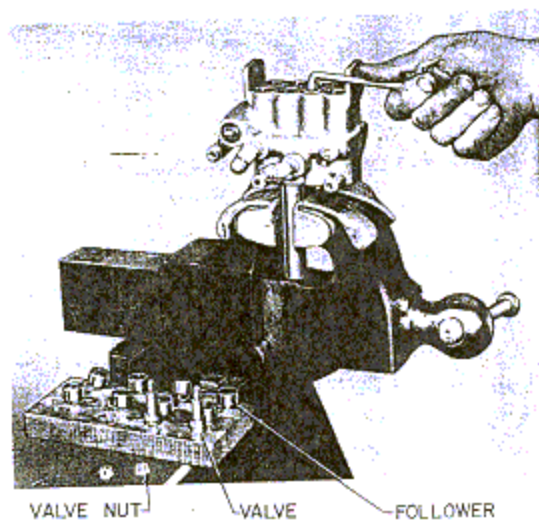

Figure 236—Removing Valves from Valve Body
12. Insert the tube in the vise with the special end up to engage the valve slots and retain the valves while the nuts are turned off. (See figure 236.)